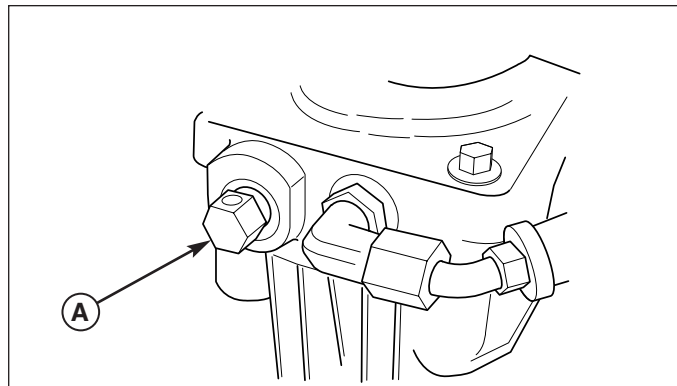

Figure 1. Transmission Release Valves
4. Place hydro release valves (A, Figure 1) in the PUSH position by turning the valve counterclockwise one to two turns.
6. Engage the hydro pumps by tightening the release valves (A) to 80-120 in. lbs.